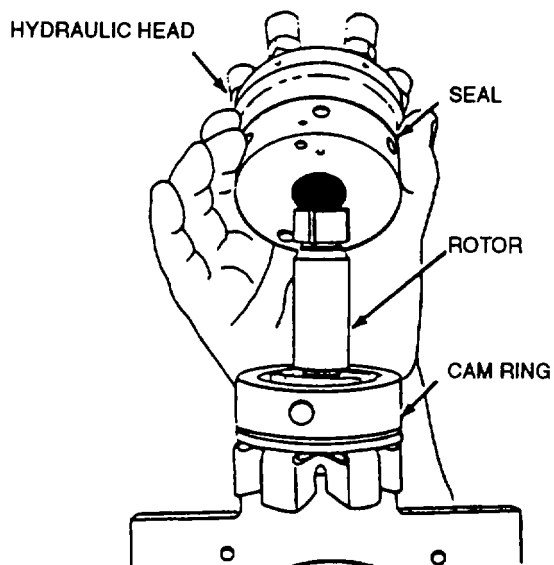

FIGURE 3-84. Removing Cam Ring (Typical)
- ba. Remove cam ring (24), refer to FIGURE 3-84.